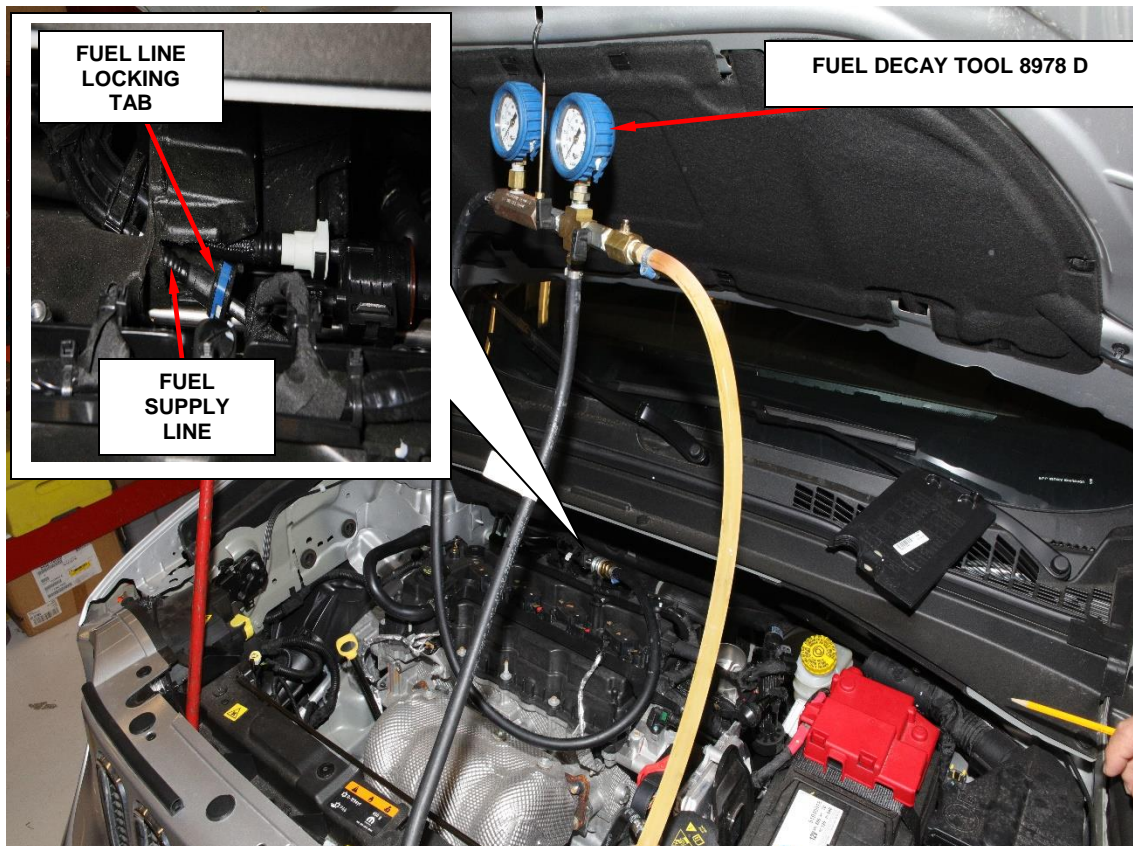

Figure 6 – Fuel Decay Tool 8978D
12. Pull the blue fuel line locking tab out and separate the fuel supply line (Figure 6).
13. Connect the fuel decay tool 8978D to the fuel supply line (Figure 6).
29. Disconnect and remove the fuel decay tool from the vehicle and reconnect the fuel supply tube to the fuel rail, verify the locking tab is secured by pulling on the line assuring it does not disconnect (Figure 6).